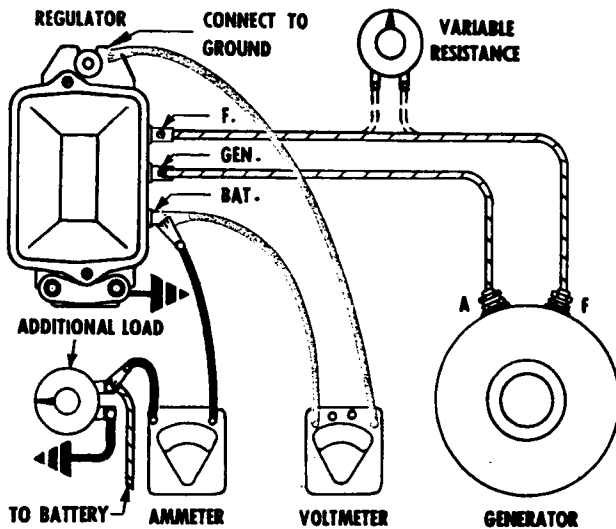

Figure 13—Connections for checking current regulator by load method.
1. Connect ammeter into charging circuit, as in Figure 13.